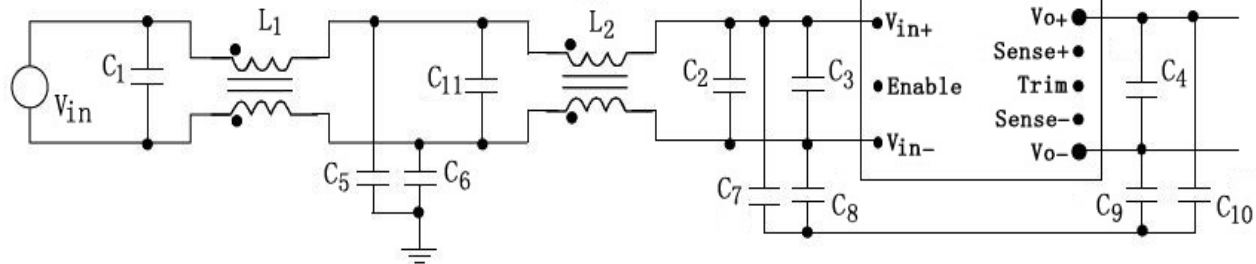

Figure 2 Two-Stage EMI filter structure
For Dr.Power converters, the single-stage filter in Figure 1 is generally good for power modules below 150W. For power level above 150W, the two-stage filter structure shown in Figure 2 is recommended.
The filter structures shown in figure 2 is designed to meet electromagnetic compatibility (EMC) requirements for radiated and conducted EMI per FCC part 15J (47 CFR part 15B) in USA and/or EN55022 (equivalent to CISPR 22) in Europe without considering the system. Considering that module is only part of the application system and both input and output wires/trace are short and lay inside the system, system designs may suppress EMI through proper bypassing, shielding, grounding and system level filter. So the filter structure could be simpler compared to Figure 2.
A copper plan should be placed under the power module and coupled to the input and output terminals of the power module through ceramic capacitors of proper voltage rating. These ceramic capacitors also include the components of filter, such as C7-C10 in Figures 1 and figure 2. This helps to contain the radiated noise from the fast dv/dt and di/dt inside the power module. This copper plan should be buried in an internal layer of the system board to prevent possible violation of isolation spacing distances between input and output.
4. Such a shunt has a small and well defined resistance to convert a current into a voltage signal normally in the range of mV. However, the measurement of such low amplitude signal is susceptible to switching noises, especially the common-mode noise. Filter capacitors may be used to achieve valid readings (refer figure 1 and figure 2). If good grounding and filtering is not possible, it's recommended to connect an input terminal (usually V_{in-}) to an output terminal (usually V_{o-}) together through a short wire or a capacitor to minimize common-mode noise.